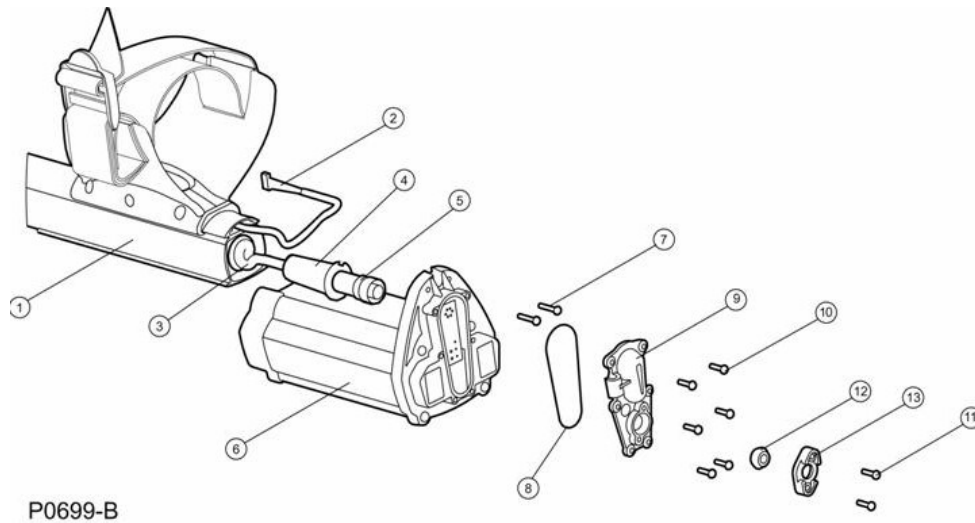

Figure 9: F3 Tool Kit
3.2 **F3 Tool Kit.** The F3 Tool Kit (Part No 3004-0018) is required to disassemble and reassemble the F3. The tool kit (Figure 9) comprises: